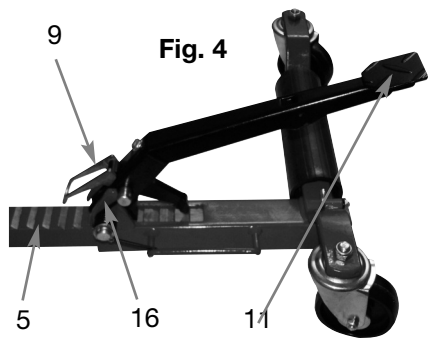

Fig. 4
5. Rotate the lock (9) in the opposite direction so the front lock jaw (16) engages the teeth in the Left Roller Supportl (5) (**Fig. 4**).
6. Activate the foot pedal (11) (**Fig. 4**)so the rollers on the base leg assemblies make contact with the circumference of the tire. Again, make sure the tire is properly aligned with the maneuvering aid. Continue activating the pedal assembly until the tire is lifted about 2,5 cm off the ground.